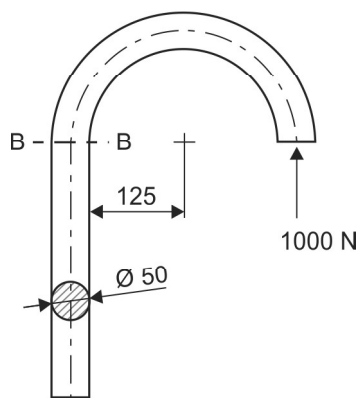

Fig. M1.20
35. A curved machine member is loaded as shown in Fig. M1.20. Determine the maximum tensile stress induced and locate that point. (10 Marks)